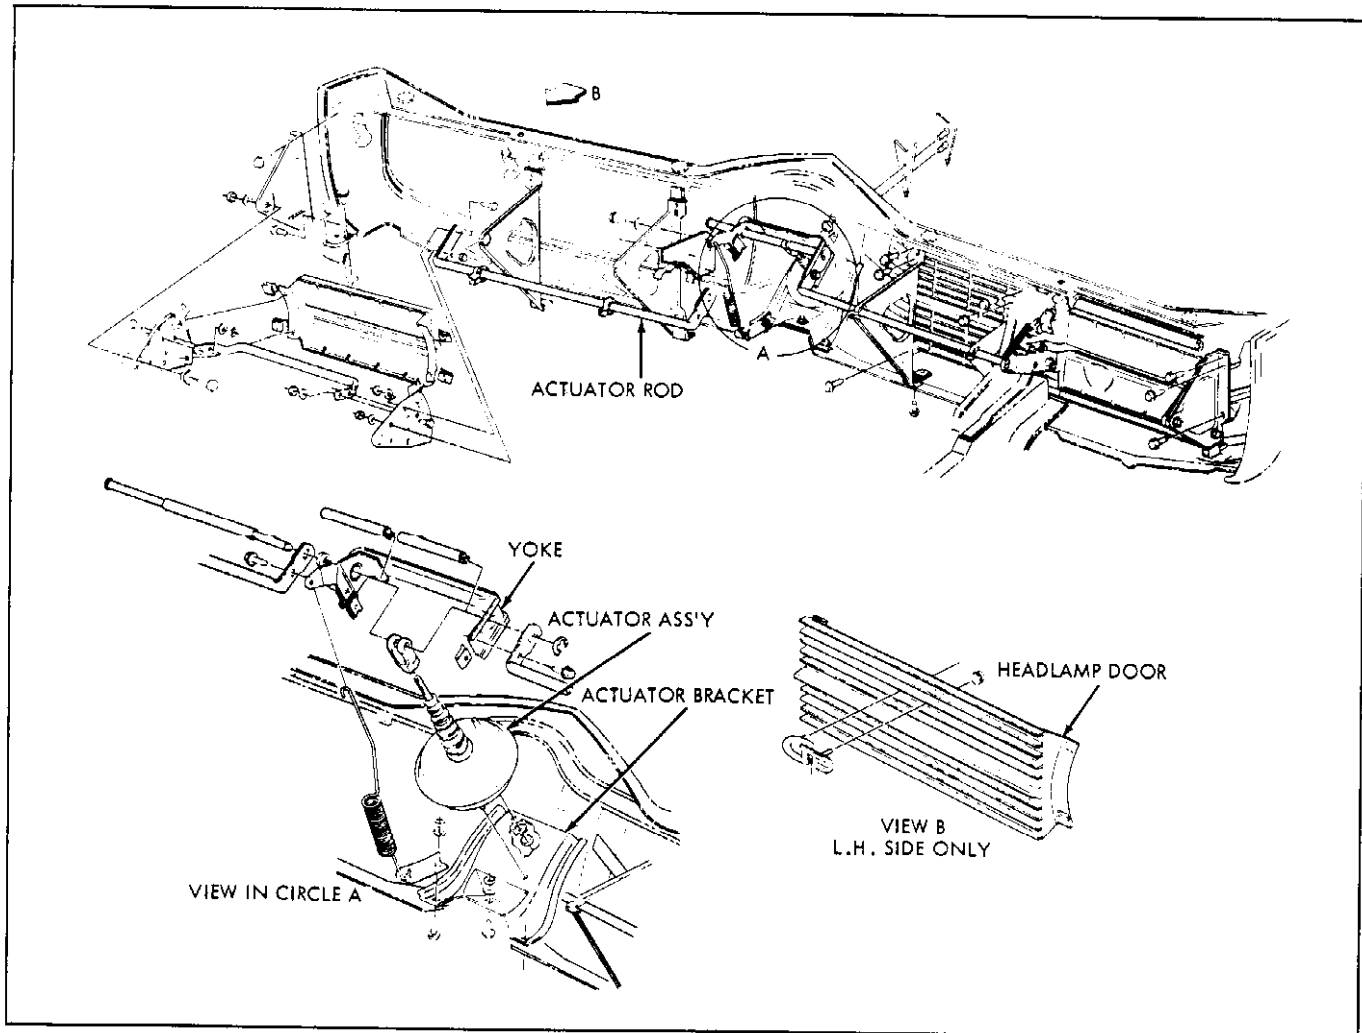

Fig. 14-2 Front Bumper Assembly (GP)
GRAND PRIX (Fig. 14-2)
3. Disconnect actuator rod and yoke mechanism from headlight door control rods (Fig. 14-2).